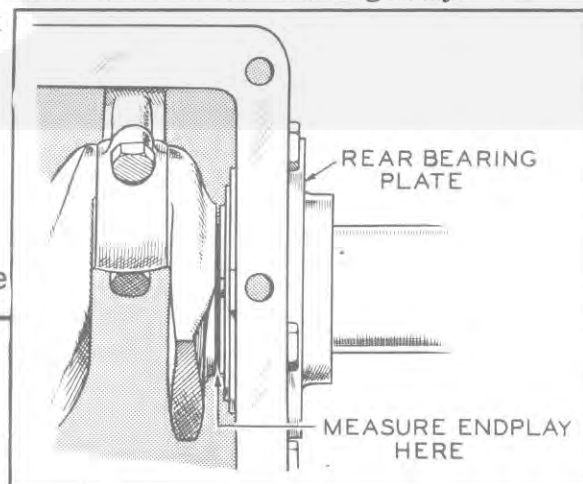

FIG.38-CRANKSHAFT ENDPLAY
**CRANKSHAFT.** - The plant must be completely disassembled to remove the crankshaft. Whenever making major repairs on the engine, always inspect the drilled passages of the crankshaft. If necessary, clean them to assure proper lubrication of the connecting rods. Also the bearing journals should be inspected. If they are scored and cannot be smoothed out by dressing down, the bearing journals should be refinished to use 0.002" or 0.020" undersize bearings, or a new crankshaft should be installed. When replacing the crankshaft, use gaskets as needed behind the bearing plate to assure end play of 0.006 to 0.012 inch. See Fig. 38.